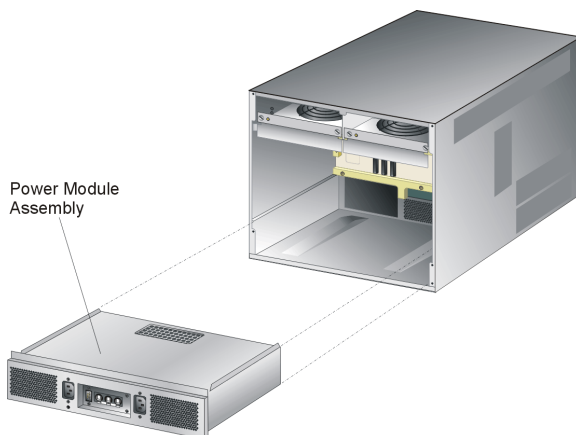

Figure 5-13 Power Module Assembly Removal and Replacement
8. Six panhead Phillips screws (two at the top and four at the bottom) secure the power module assembly to the director chassis (*Figure 5-13*). Using a standard Phillips screwdriver, loosen and remove the screws.
3. Position the power module assembly at the rear of the director chassis (Figure 5-13). Push the module toward the backplane to engage the connector pins. Support the fan module with one hand when performing this step.